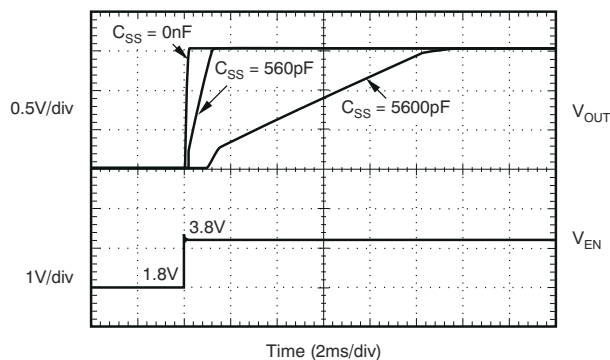

Figure 8-6. Turn-On Response
3. Select a minimum of a 2.2- $\mu$ F ceramic output capacitor. Increased output capacitance helps the output load transient response. Figure 8-6 gives examples of the load transient response with different output capacitor values and types.